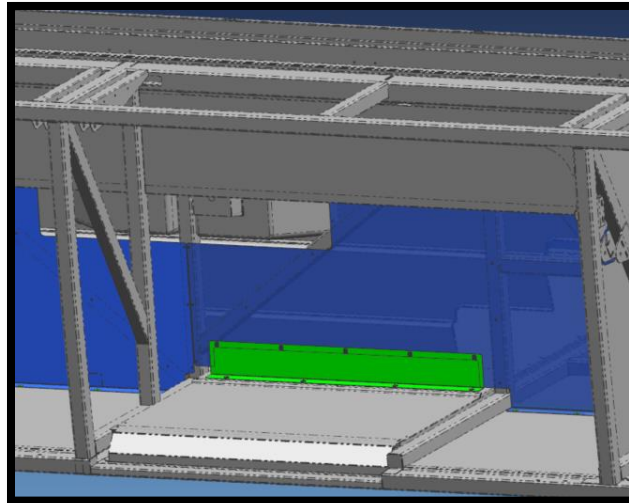

Figure 3 - WC Access Panel
2.3.2. To access the left side sensor plugs, enter via Baggage Bay 2 (street side) and remove the WC RAMP HARNESS ACCS panel Shown in figure 3.